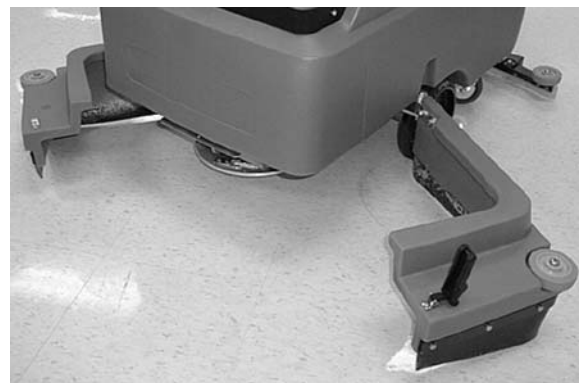

FIG. 7
4. Unfasten black latch at front of machine and hinge open skirt housing to access motor hub (Figure 7).